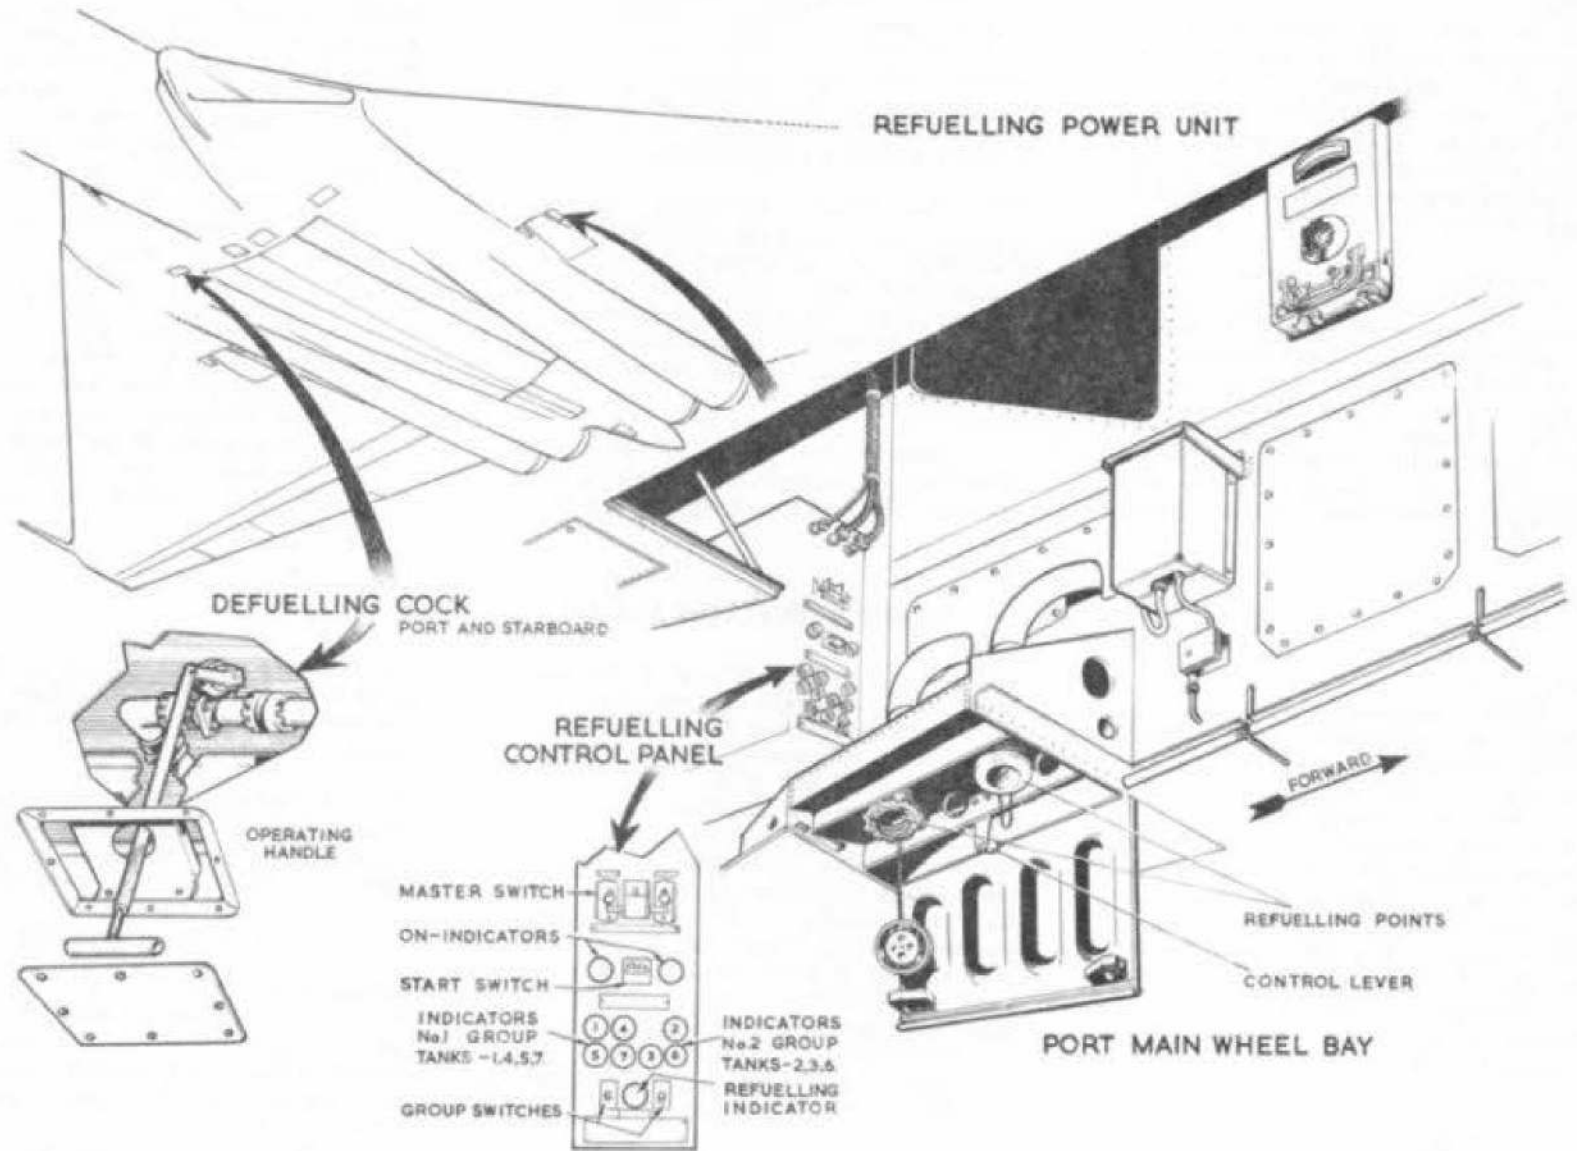

Fig. 8. Refuelling equipment.
33. Pressure refuelling is effected through two refuelling points in each main-wheel bay which lead to a refuelling valve, Type F.R. Mk.32 (post-mod.274) or Type F.R. Mk.40 (post-mod.858) in each tank. The Mk.32 and the Mk.40 are rated at 50 gallons per minute. Even distribution of the fuel load is accomplished by utilising the electrical output from the contents gauge transmitter units. Selection from 0 per cent to 100 per cent of the tank capacity is possible. Refuelling procedure is described in Sect.2, Chap.2 of this book; the equipment is illustrated in fig.8.